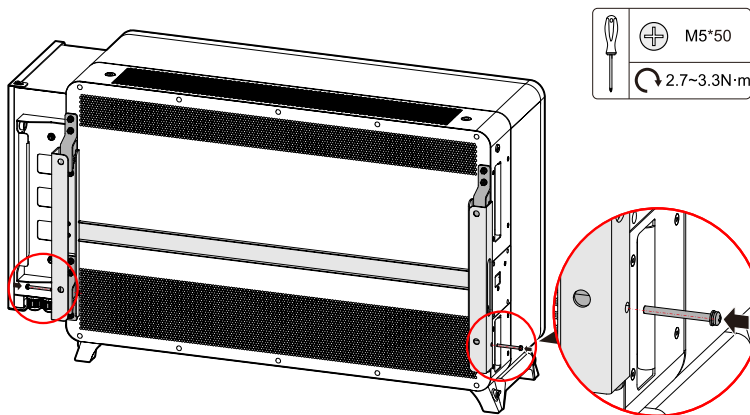

Figure3-25 Fix inverter
Step 7 Fix inverter to the installation holder through the equipped M5\*50 screws, as shown as shown in Figure3-25.